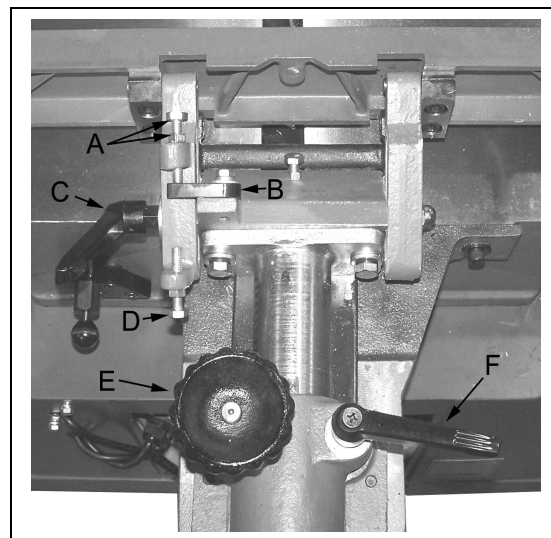

Figure 8
The various adjustments, locks and handles are shown in Figure 8.
2. Loosen the angle lock handle (F, Figure 8).
3. Ensure the 90 degree flip stop (B, Figure 8) is in the 90 degree position as shown.
4. Loosen the jam nut on the 90 degree adjusting bolt (A, Figure 8) and adjust the bolt against the flip stop until the fence becomes true with the square.
To tilt the fence, see Figure 8. Loosen angle lock handle 'C', flip up the stop 'B', and tilt the fence to the desired angle. Use a protractor or adjustable triangle to set the angle. A 45 degree stop, 'D' is provided for quick set-up at this angle.